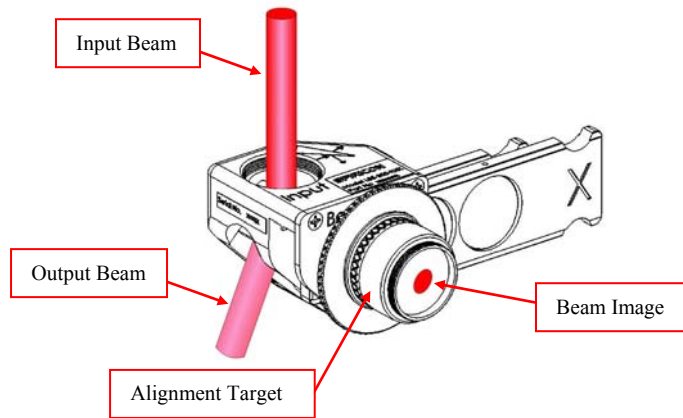

Figure 3
2. Adjust the position of the LBS-300 so that the beam will exit the center of the camera port. An alignment fixture consisting of a ground glass plate is provided to assist in aligning visible beams to the camera imager. This plate allows you to directly view a visible or UV beam (UV by secondary emissions). In the NIR you would need to use an NIR viewer or a visible alignment beam. To use the alignment fixture, screw the fixture onto the camera port and center the image of the beam in the plate. See Figure 3. When the LBS-300 is aligned remove the alignment fixture and attach the camera.